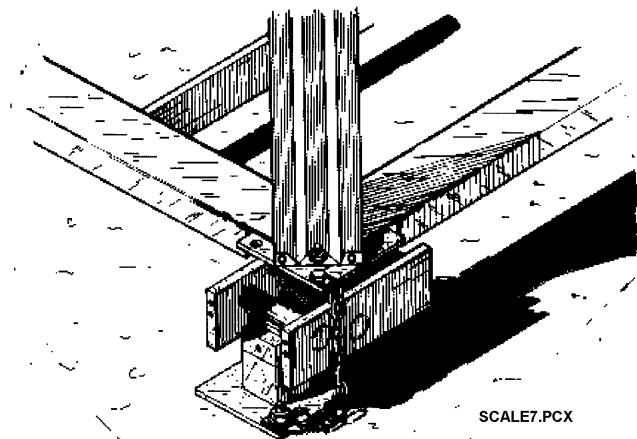

Figure 56. Setting Bin Legs on Scale Framing
1. Raise the bin onto the Main Stands of the Scale. Use the Leg Anchor Plate provided with the bin plus a 5/8” heavy washer at each leg to secure the bin to the Main Stands. Attach the Safety Chain to the Upper Main Stand at each leg. (See **Figure 56**.)